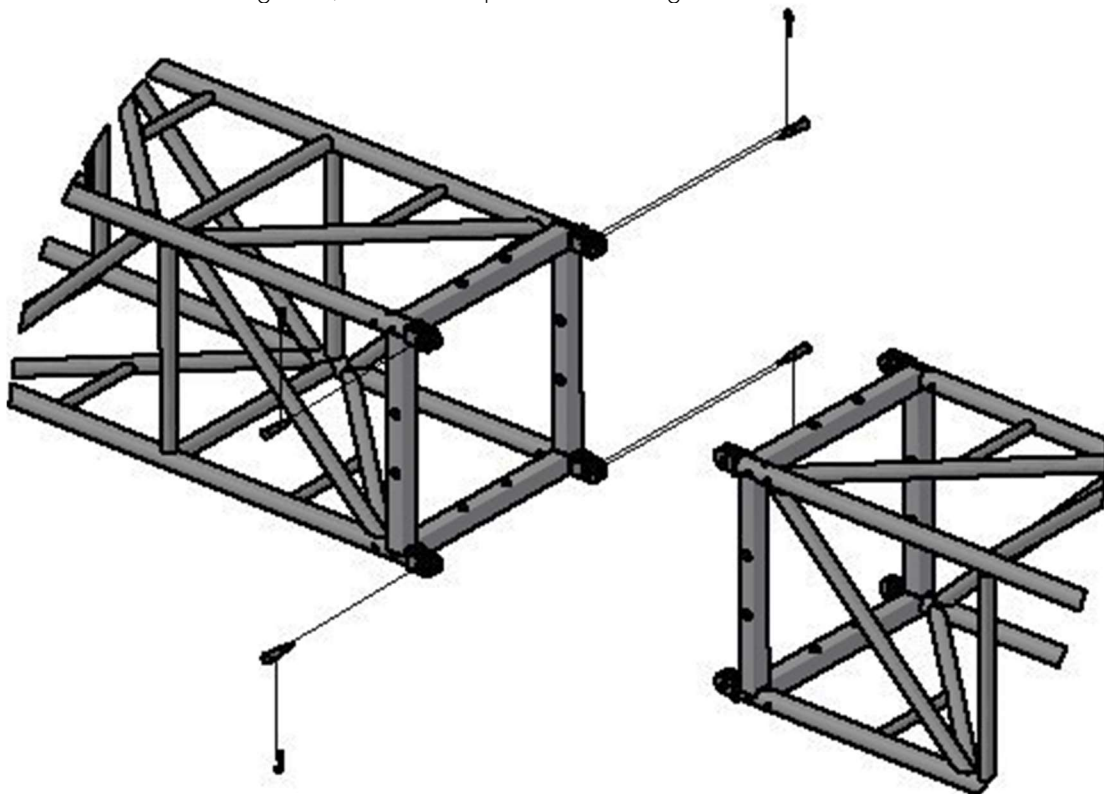

Figure 6: Connecting the truss modules
- 4.a) Proceed by assembling the S-78T-L450 truss modules using the pins and R-clips, as shown in Figure 6, until the required tower height is reached.